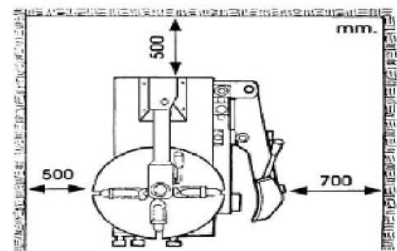

Fig 3
2. Unscrew the nut A on the cabinet body B as shown in **Fig 3**. Lift the column C; mount it on the machine body B by using the nut A through the bolt located on the machine body B. If the column becomes loose after a period of using, tight them immediately. Otherwise the result of damage to the tire may happen.